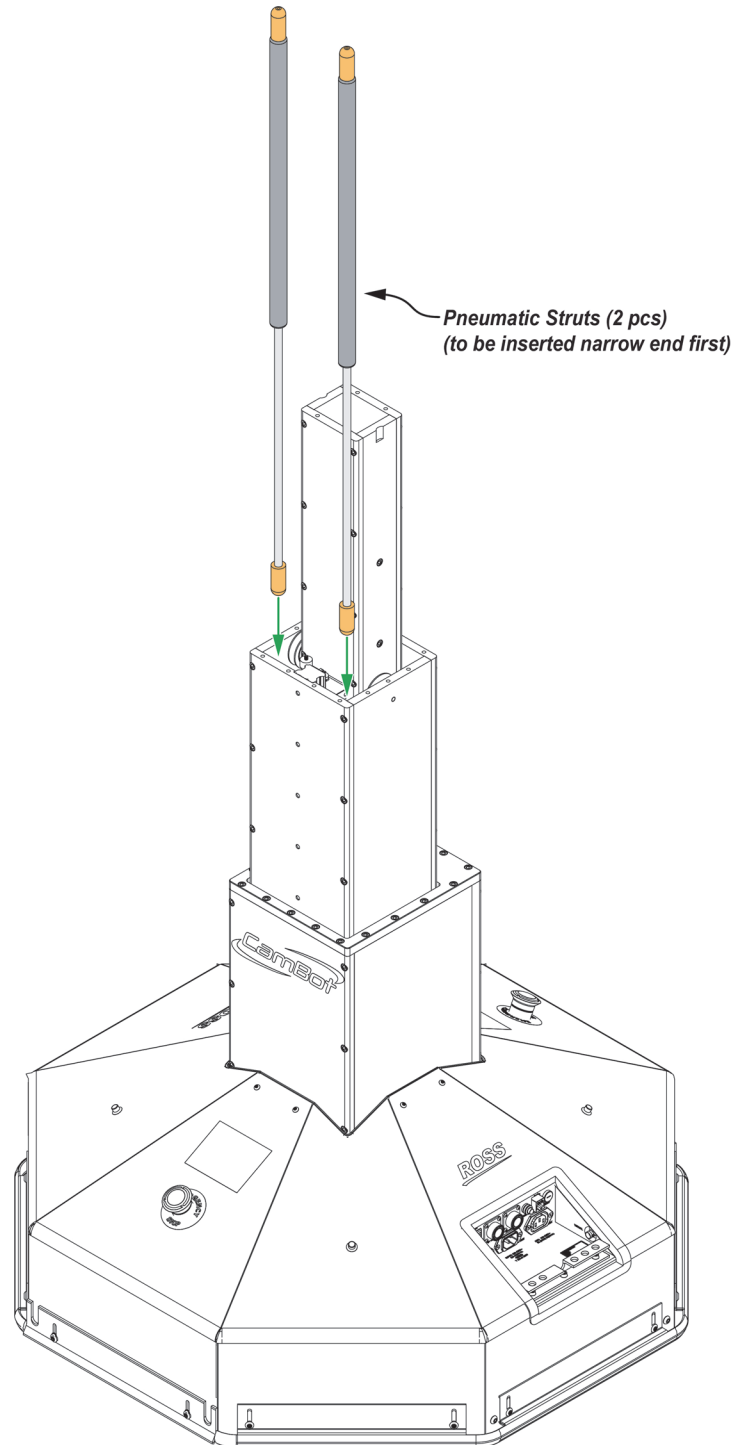

Figure 12 - Inserting Pneumatic Struts, Narrow End First (Top plate on lift column omitted for clarity)
10. Insert each of the new struts into the lift column, narrow end first, as shown in **Figure 12**.